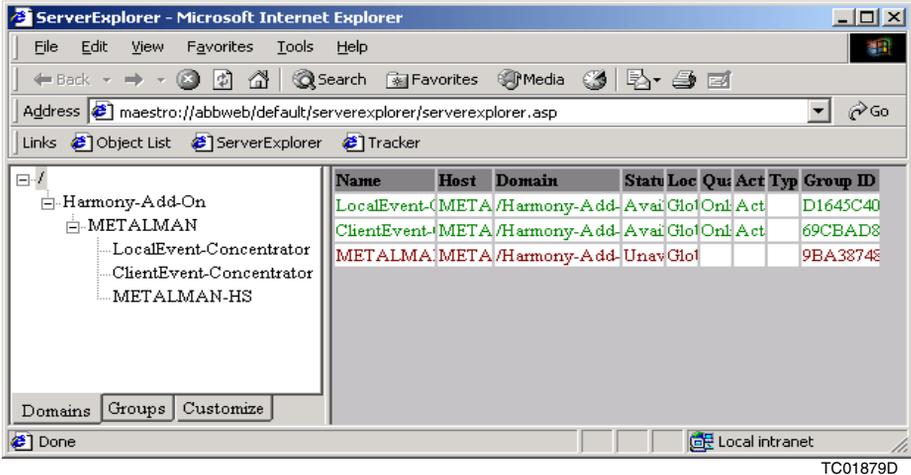

Figure 51. Web Based Server Explorer
The Web Based Server Explorer utility accesses diagnostic tools for the Harmony system (Figure 51). To access the utility, select the following menu options from the Start menu:
1. Select a server from the list in the Web Based Server Explorer (Figure 51).